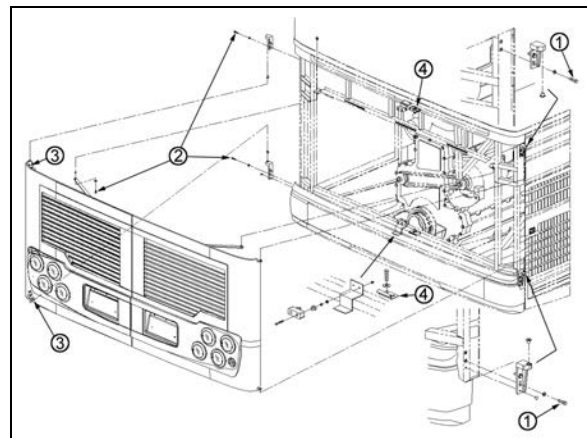

FIGURE 57: ENGINE COMPARTMENT DOORS
1. Loosen the bolts, (1, 2 Fig. 57) holding the hinge to the vehicle structure to shift the door "UP or DOWN".
2. Loosening the bolts (3, Fig. 57) allows the door to be shifted "LEFT or RIGHT" and "IN or OUT".
To adjust the latch mechanism (4, Fig. 57) and the striker pin: